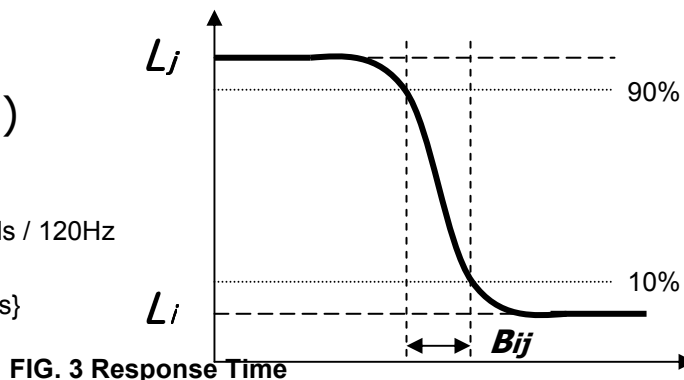

FIG. 3 Response Time
4. MPRT is defined as the 10% to 90% blur-edge width Bij(pixels) and scroll speed U(pixels/frame)at the moving picture. For more information, see FIG 3.